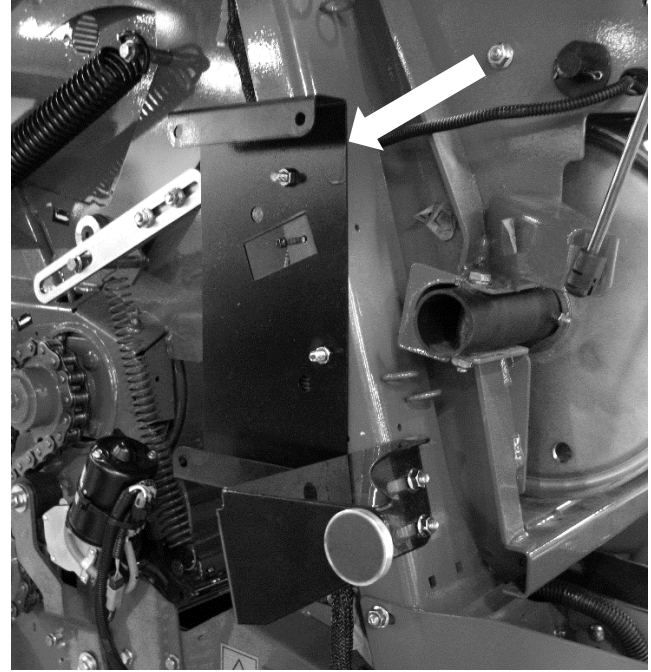

Figure 2
2. Install DCP mounting bracket 001-4703XI as shown (Figure 2).